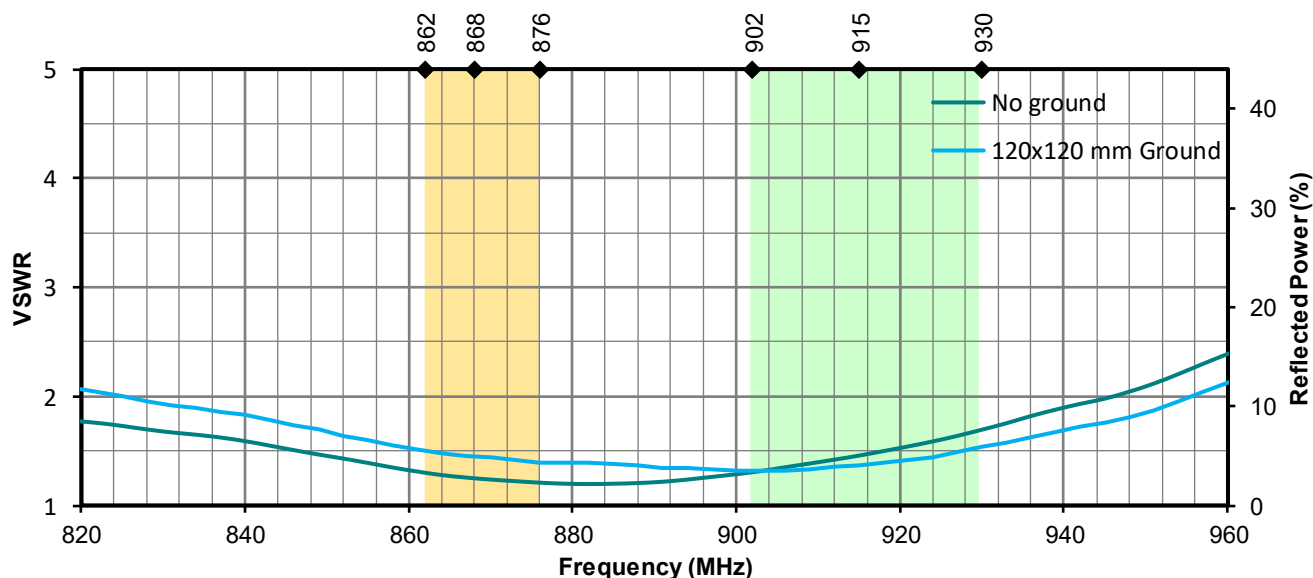

Figure 4. Antenna VSWR
**Figure 4** provides the voltage standing wave ratio (VSWR) across the antenna bandwidth. VSWR is a function of the reflection coefficient, which describes the power reflected from the antenna back to the radio. A lower VSWR value indicates better antenna performance at a given frequency. Reflected power is also shown on the right-side vertical axis as a gauge of the percentage of transmitter power reflected back from the antenna.